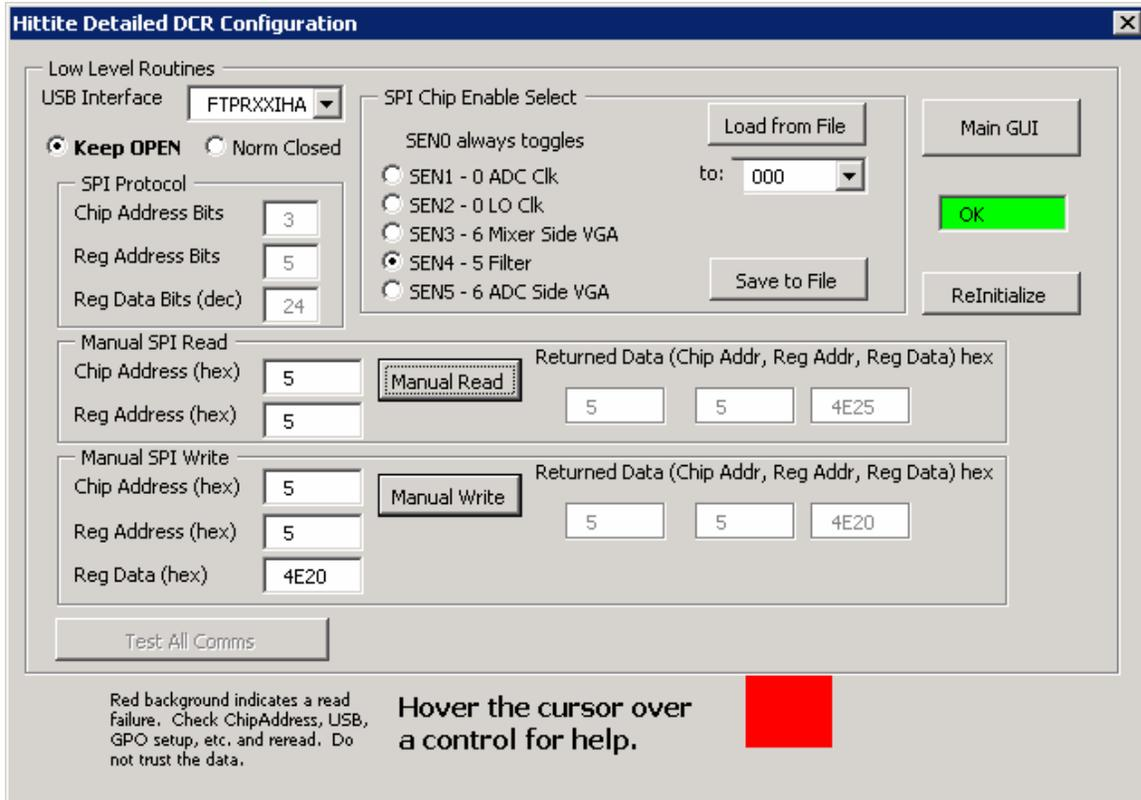

Figure 54. Program and read back calibration clock period in picoseconds (Reg05h of HMC900LP5E)
1. Program the clock period in picoseconds to Reg05h of the HMC900LP5E. 1/50 MHz = 20000 picoseconds = 4E20h, as shown in Figure 54, and press manual write. To confirm, that the data is correctly written use the 'Manual Read' button to read back the same register in 'Hittite Detailed DCR Configuration' dialog, as shown in Figure 54.